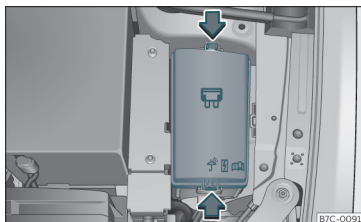

Fig. 45 In the engine compartment: fuse box cover.
- Press the locking tabs to release the fuse box cover >>> **Fig. 45**.